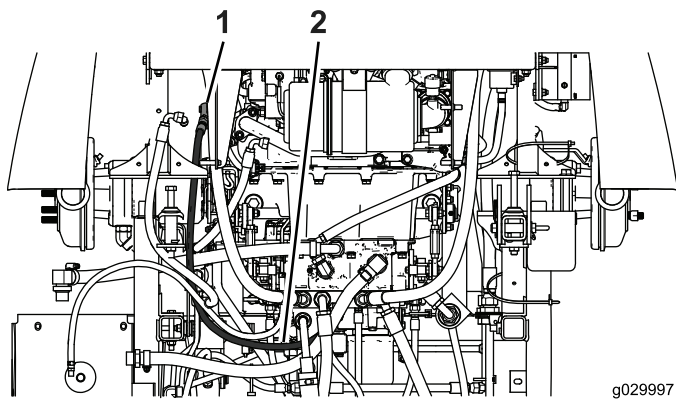

Figure 13
6. Route the short hydraulic hose as shown in Figure 13.